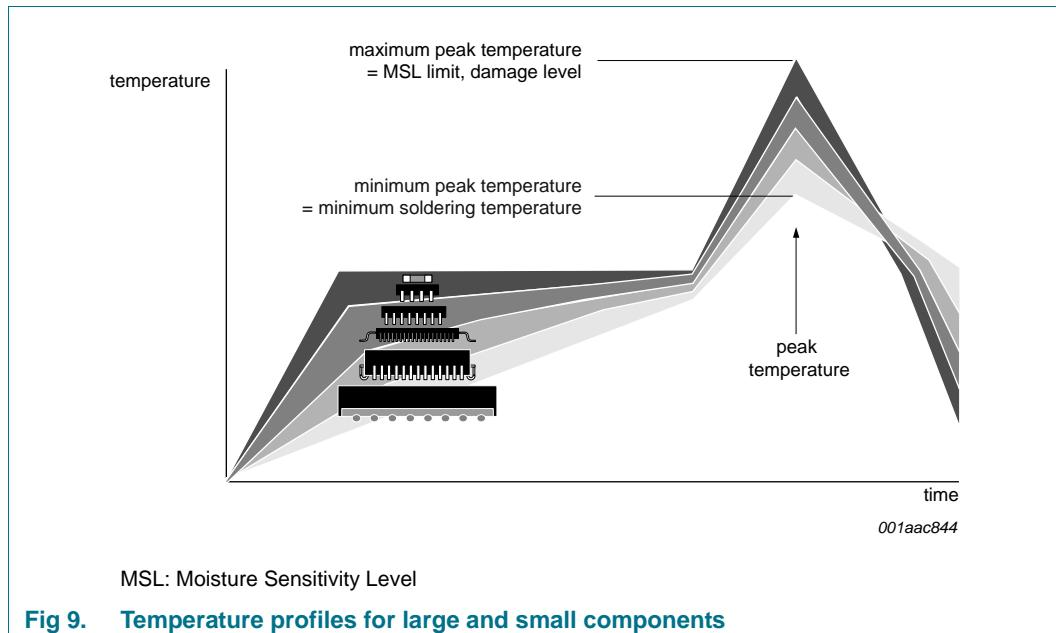

Fig 9. Temperature profiles for large and small components
- Lead-free versus SnPb soldering; note that a lead-free reflow process usually leads to higher minimum peak temperatures (see Figure 9) than a PbSn process, thus reducing the process window
Studies have shown that small packages reach higher temperatures during reflow soldering, see Figure 9.